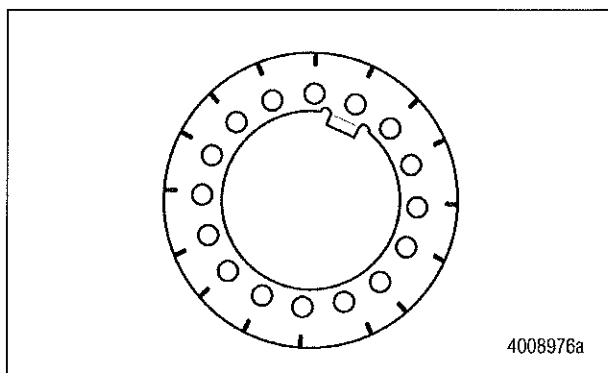

Figure 22
- A. Install the retaining washer into the hub. Ensure the adjustment indicator markings are facing outwards. Figure 22.